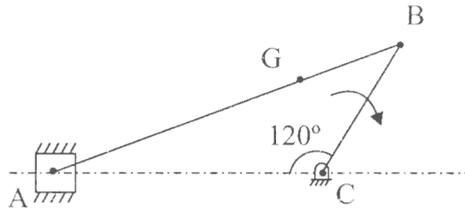

Fig. 3
- (d) An engine mechanism shown in Fig. 3 has a crank length of 0.1 m and connecting rod 0.3 m long with centre of gravity G, 0.1 m from end B. The crankshaft has a speed of 75 rad/sec and an angular acceleration of 1200 rad/sec². Find acceleration of point G and angular acceleration of connecting rod.